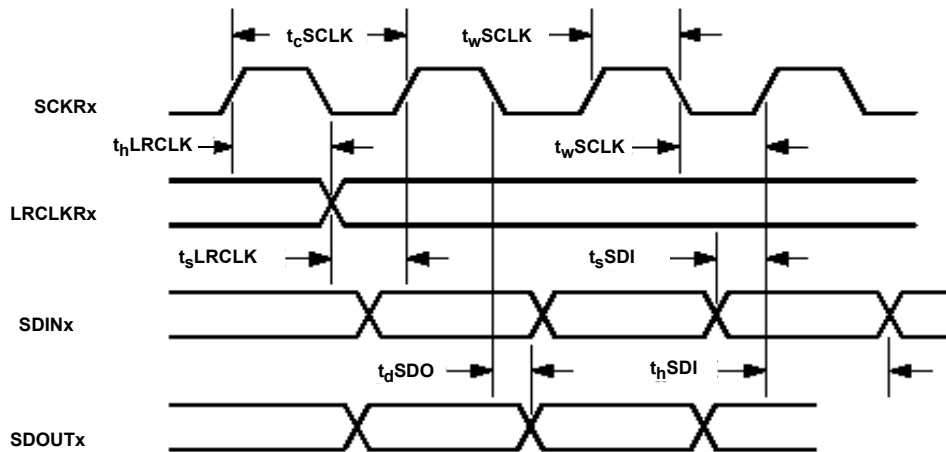

FIGURE 1. SERIAL AUDIO INTERFACE PORT TIMING
**Serial Audio Interface Port Timing** (Figure 1) TA = +25°C, CVDD = PLLVDD = 1.8V ±5%, RVDD = PWMVDD = 3.3V ±10%. All grounds at 0.0V. All voltages referenced to ground.